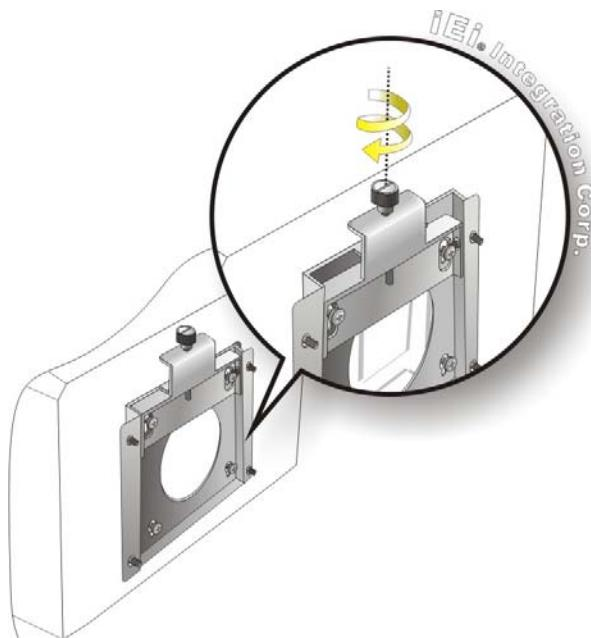

Figure 3-27: Tighten Retention Screw
Step 9: Tighten the top screw on the wall mounting kit to securely hold the IVS-200-ULT2 in place (**Figure 3-27**). After this screw is tightened, the IVS-200-ULT2 should not be able to move.